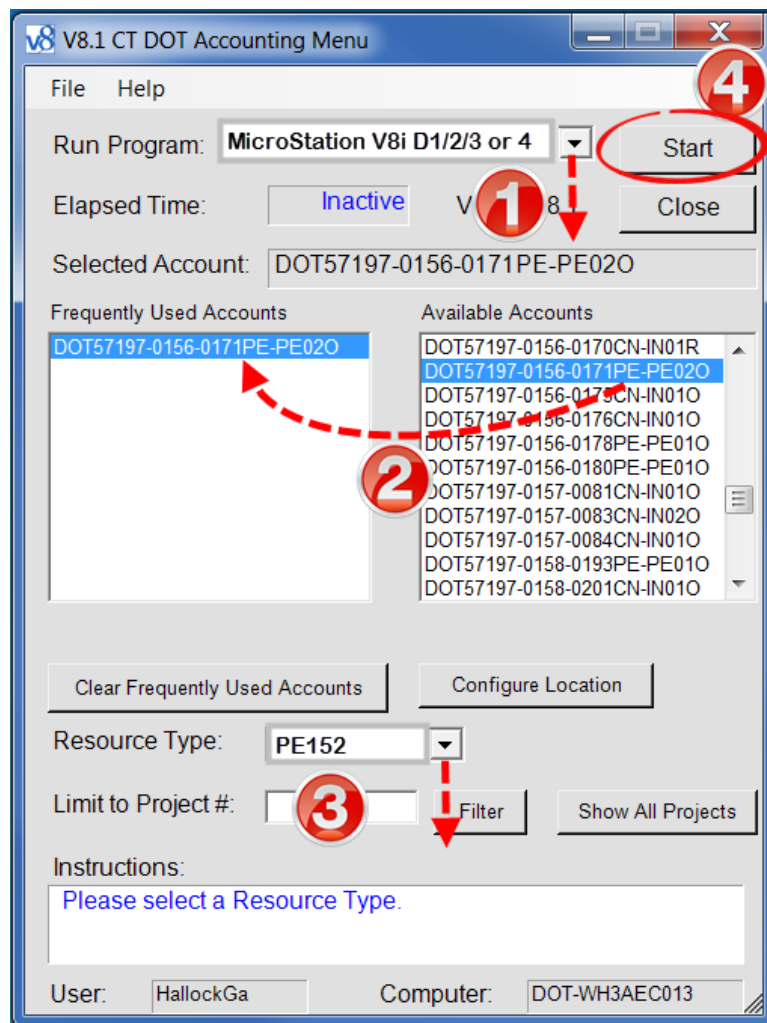

Figure 1-2 CTDOT Accounting Menu
- C. Follow the steps in Figure 1-2. Within the Accounting Menu select **Run Program (1)**, choose the **MicroStation V8i D1/2/3 or 4** whichever is your District number. Select a project number from **Available Accounts (2)** and then highlight it within the **Frequently Used Accounts**. Select the correct **Resource Type (3)** and click on the **Start (4)** button.
- G. On the Accounting dialog box start up MicroStation again using the settings in Figure 1-2. In the bottom right corner of the MicroStation Manager, select the project number. Browse to the **Survey** folder and select the **“New File”** icon to create a new MicroStation file see Figure 1-5.